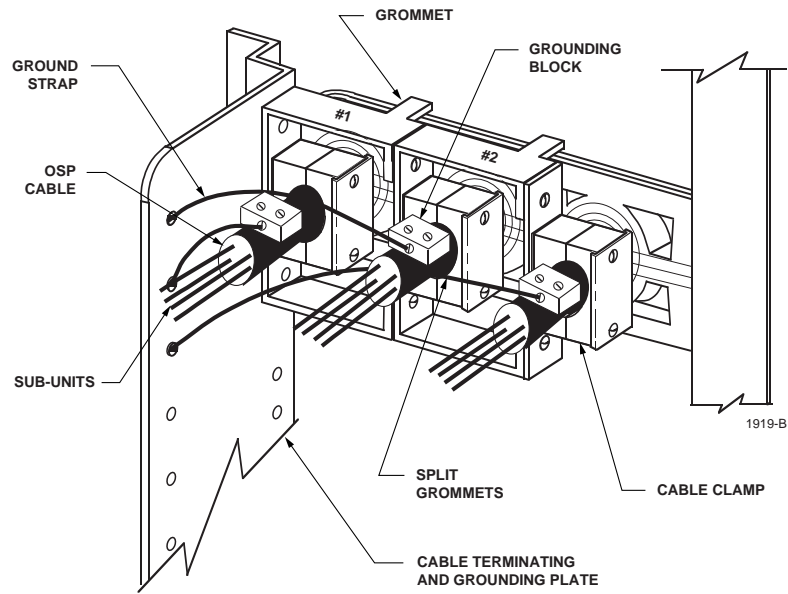

Figure 3. Three-Tier Clamp
7. Connect the ground straps to the cable terminating and grounding plate as shown in Figure 3.
15. Connect the ground straps to the cable terminating and grounding plate as shown in Figure 3.
22. Connect the ground straps to the cable terminating and grounding plate as shown in Figure 3.